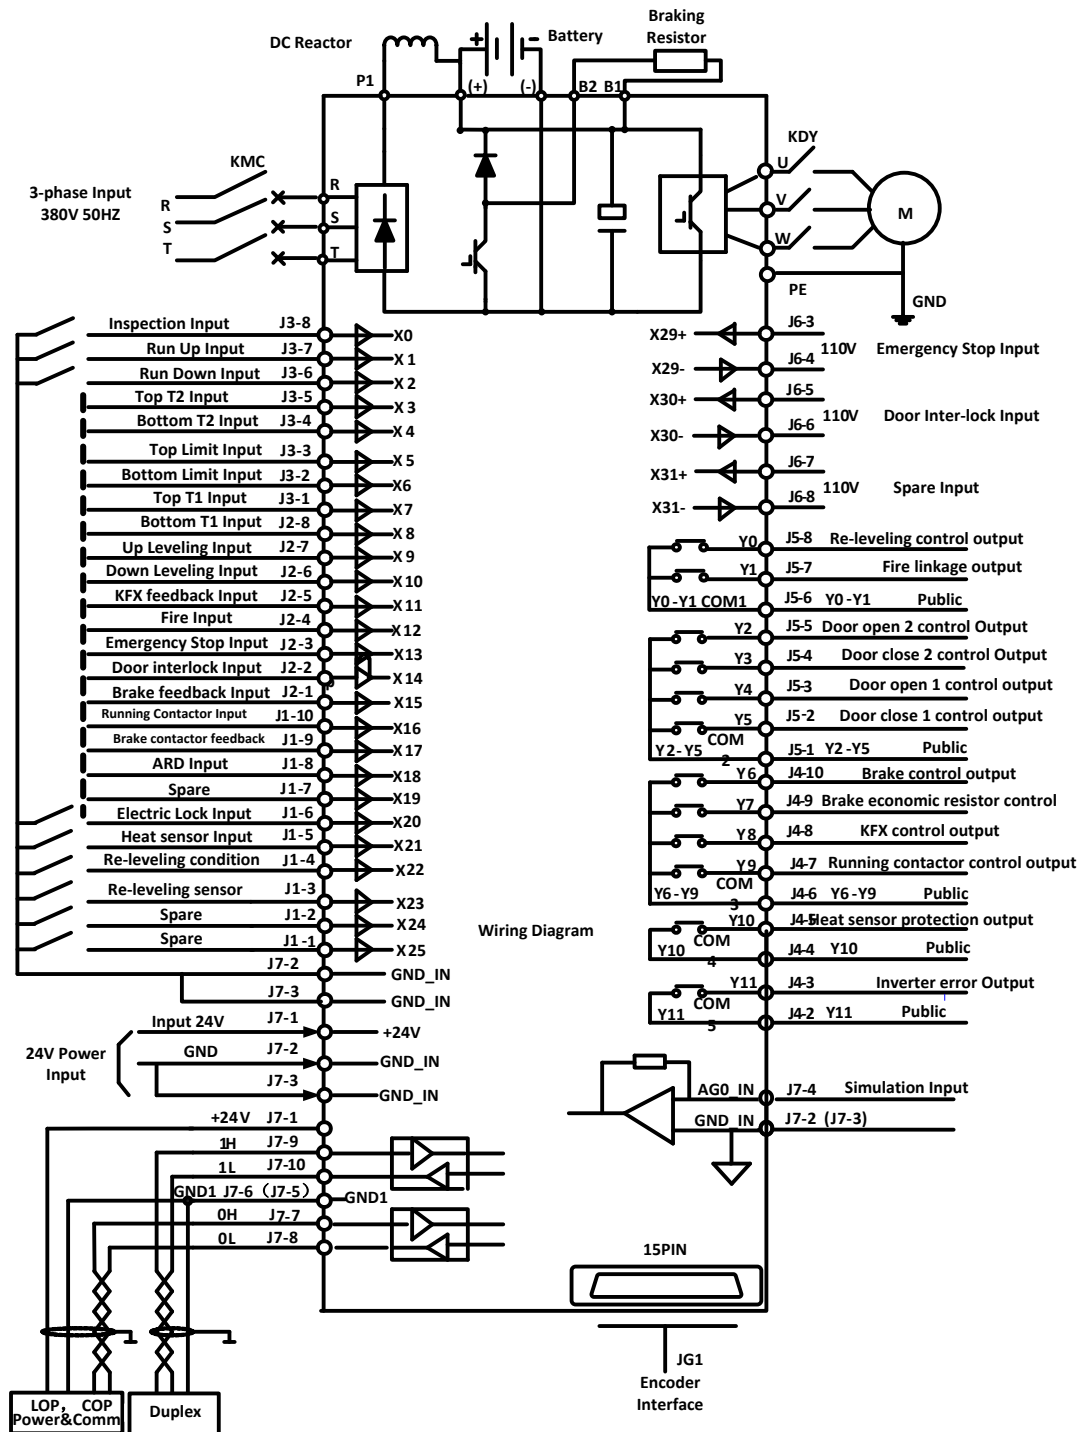

Figure 3.1 Thermal wiringDiagram for Elevator integrated controller
3.3.2 Terminal Connection for Control Circuit (Figure 3.1)